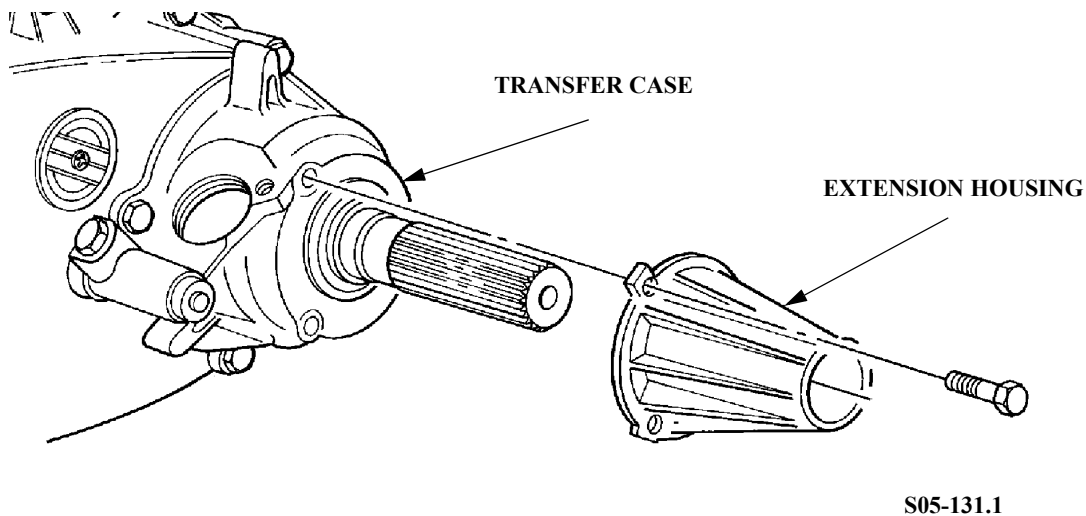

Figure 2: Rear Extension Housing
10. Remove the four transfer case rear extension housing bolts and remove the extension housing from the transfer case (See Figure 2).